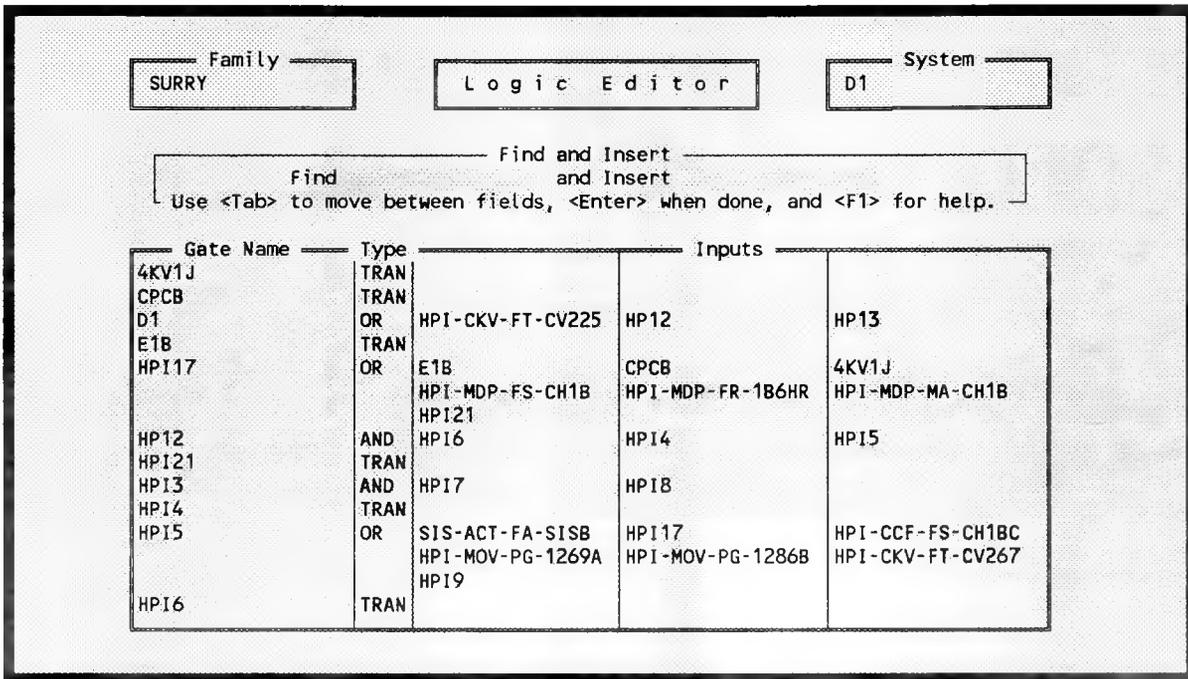

Figure 120. Find and insert a gate or event.
5.6.2.8 Insert. This option allows you to insert a gate or event name. When you invoke this option, Figure 120 is displayed. This option uses two names: the find and the insert/replace name. The find name is the name to be matched. It may contain any number of "*" or "?" characters. These wild card characters have the same meaning as they do in DOS file names. The insert field cannot contain any wild card characters, and will be used exactly as typed.